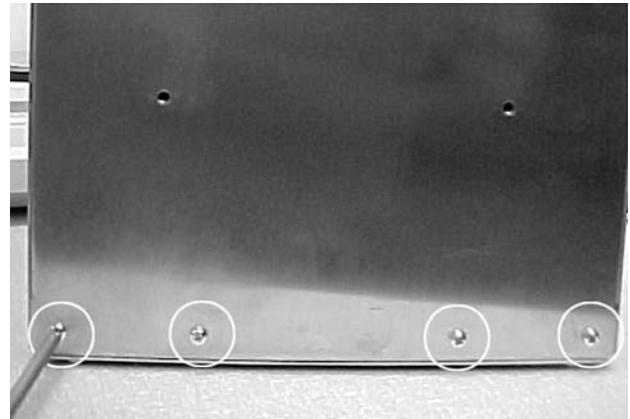

Figure 5-12 Lamphead Cover Removal
3. For external blower units, remove the 11 screws from the lamphead cover to remove the cover. See Figure 5-12. For internal blower units see the *Internal Blower Lamphead Cover Removal* section on page 5-9 to remove the cover.